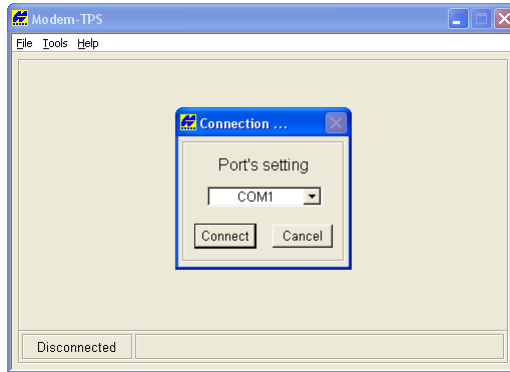

Figure 3-4. Connect to Modem-TPS
- Open Modem-TPS, and select the COM port the receiver is connected to (Figure 3-4). Click **Connect**.